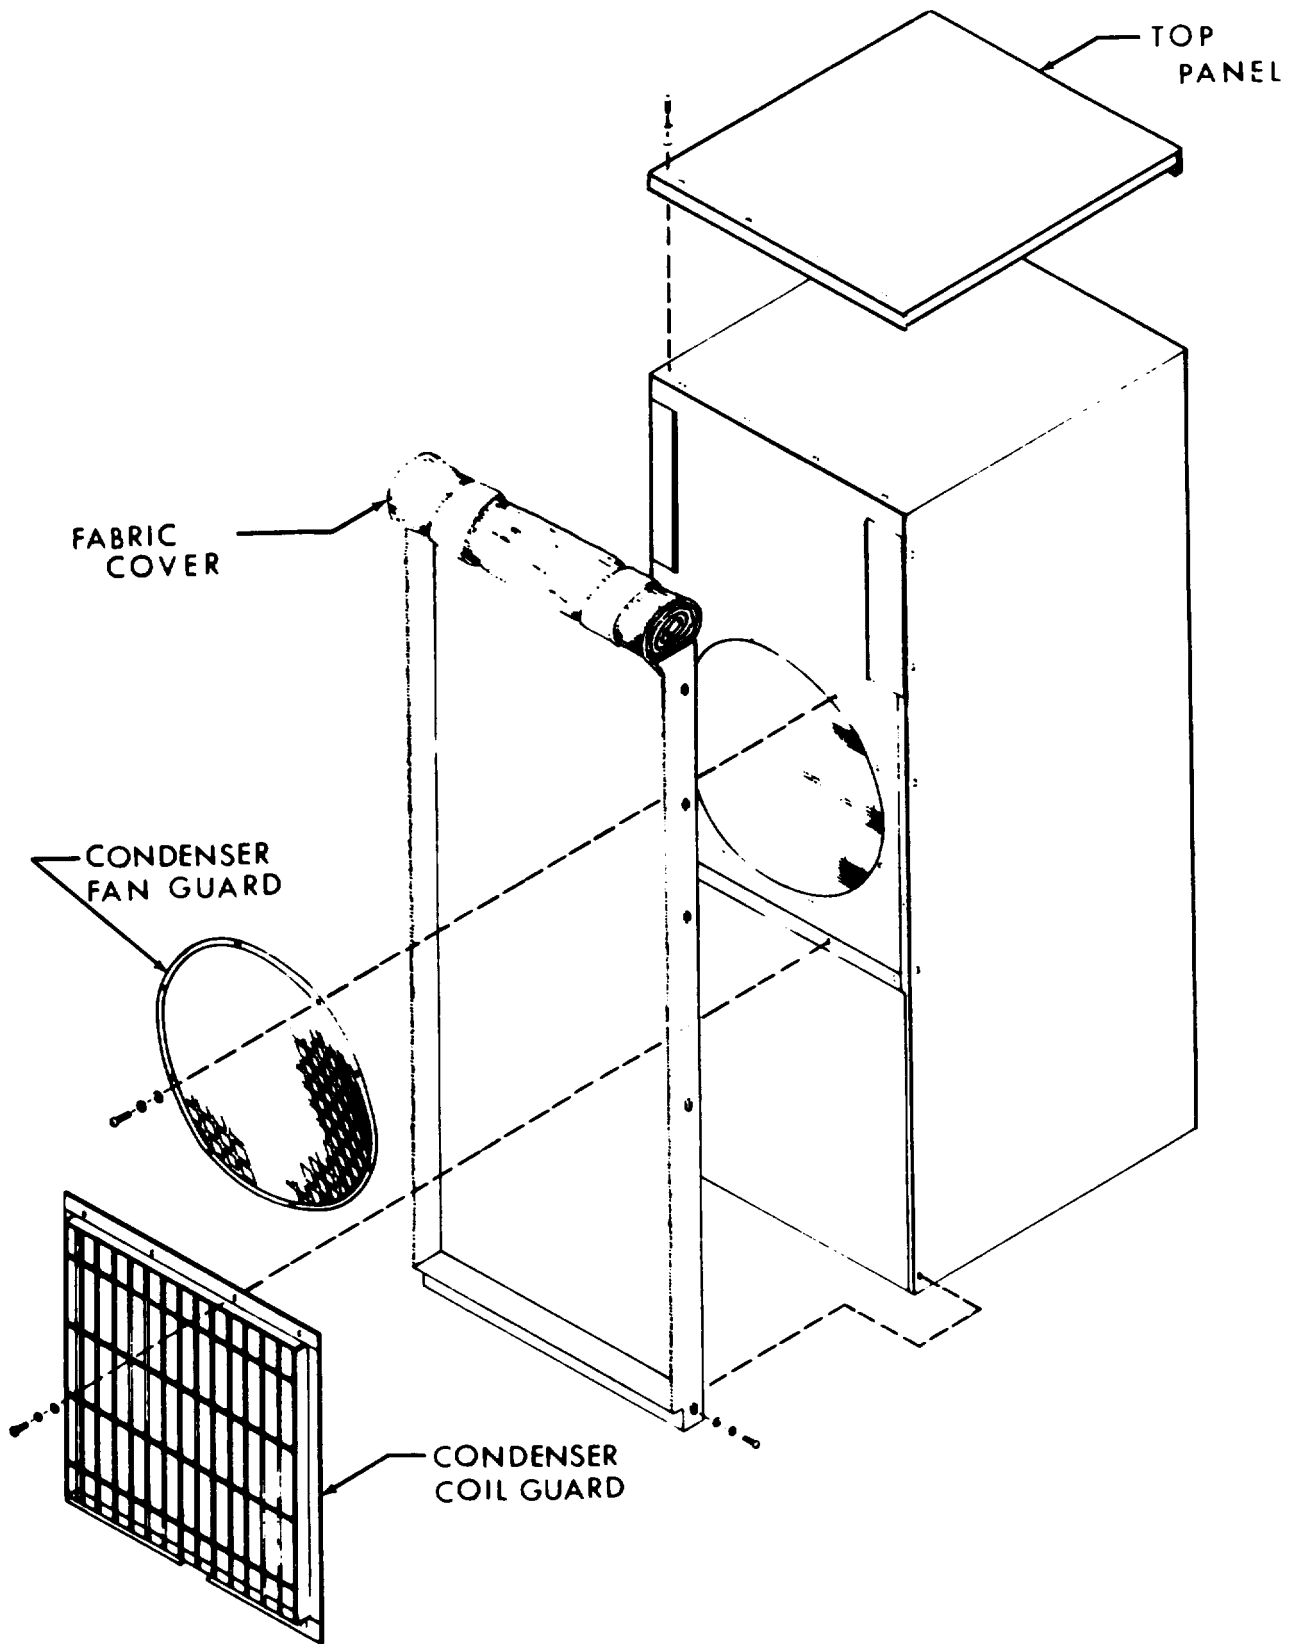

Figure 4-4. Screens, Covers and Guards
4.7. Fabric Cover (See figure 4-4).
- (1) Roll the cover down, and fasten all around with the slide fastener.
(2) Remove 18 screws and washers from the four edges of the cover,
(3) Slide the cover off the air conditioner by pulling or pushing on the aluminum frame near the corners. If the cover is stuck to the casing with dried mud or other debris, carefully insert a putty knife, paint scraper or similar blade between the cover and the casing to separate them. If difficulty is still encountered, place a clean wood block near each corner in turn, and drive the cover off with a light hammer.
4.8. Top Panel Assembly (See figure 4-4).
4.13. Condenser Coil Guard (See figure 4-4).
4.14. Condenser Fan Guard (See figure 4-4).